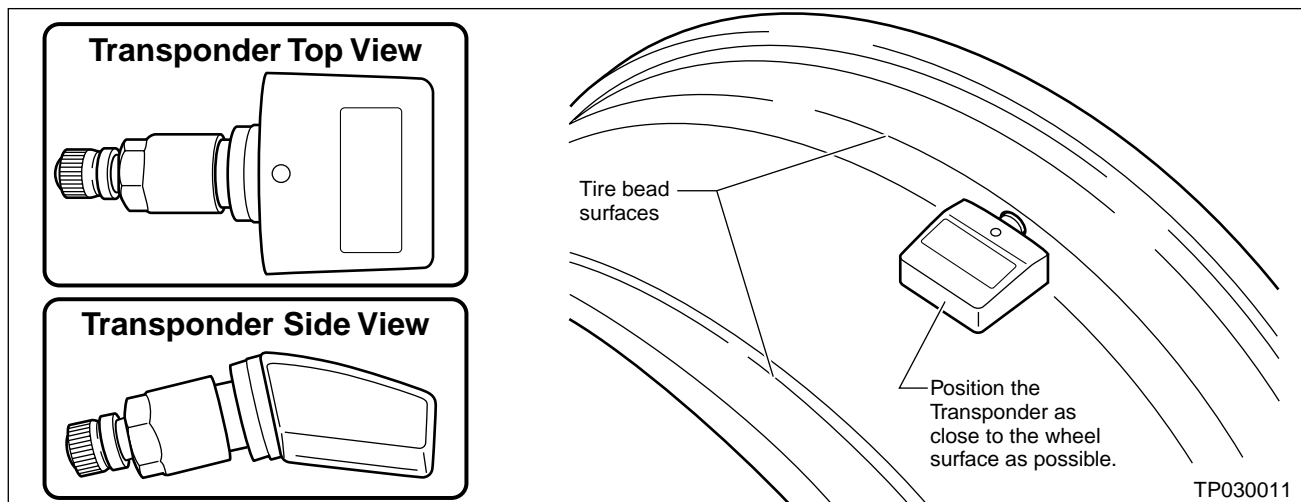

Figure 3
- When remounting tires, make sure the TPMS Transponder is positioned as close to the wheel surface as possible (see Figure 3).